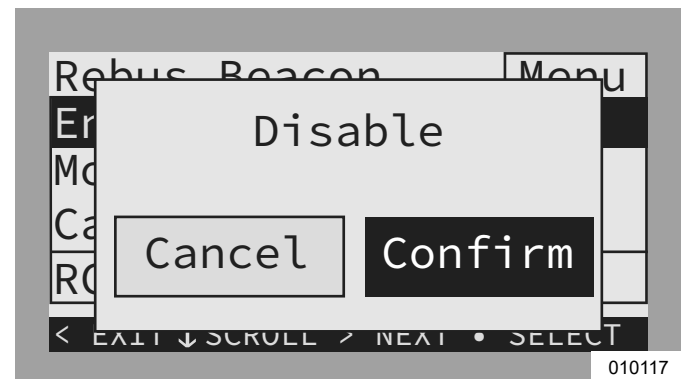

Figure 6-22. Disabling Beacon (2 of 3)
3. See Figure 6-22. Arrow sideways to Confirm and press the center button.